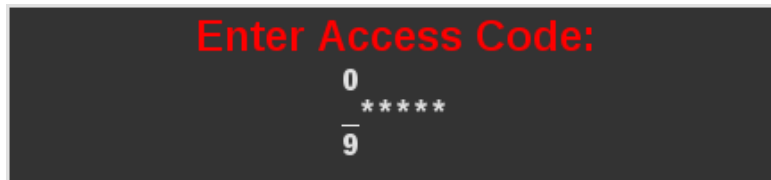

Figure 2: Access Code Window
2. Press the CALIBRATION soft switch to open the Calibration Menu. The Access Code window will appear, as shown in Figure 2.